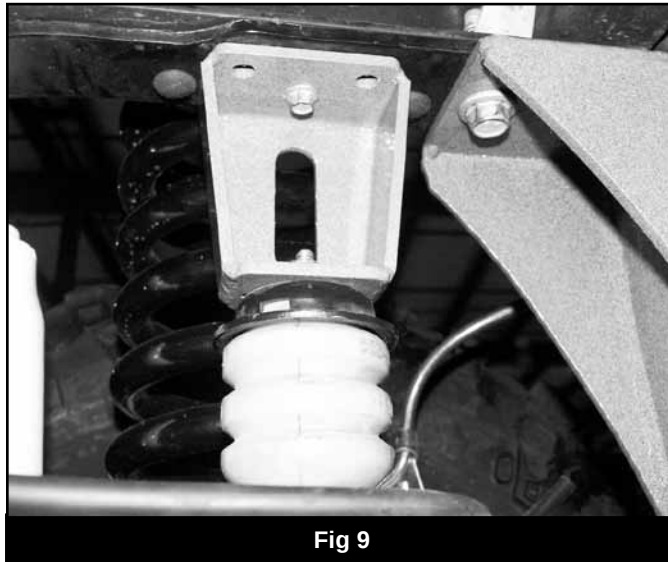

Fig 9
24. Install the extended bump stop to the frame with the original hardware and torque to 20 ft-lbs (Fig 9). The closed face of the extension should face the outside of the vehicle. Install the original bump stop in the relocated bump stop cup.